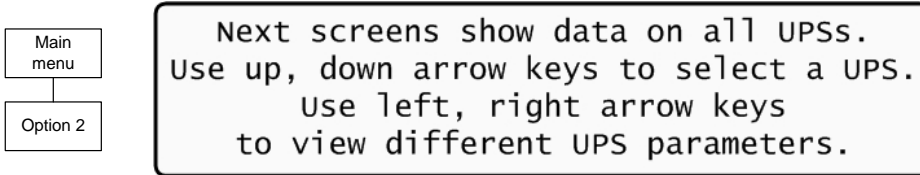

Figure 43: Instructions
1. From the main menu, select option 2 (UPS MODULE) and press the Enter button to display the instructions window shown in Figure 43.